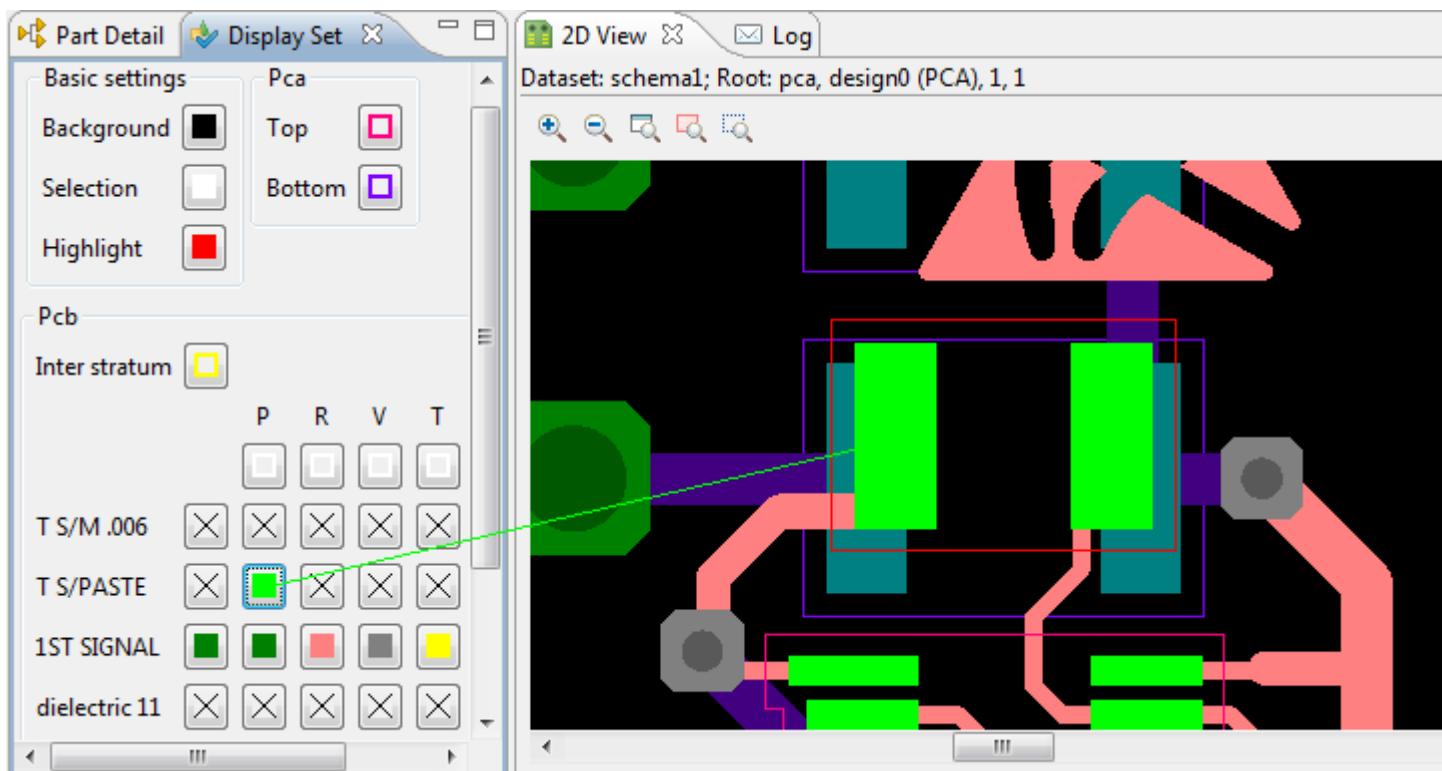

Figure 3. Changed color in Display settings view is applied to component in 2D View
- Changing settings in the **Display settings** view, the **2D View** presents, how changes are applied to the design components (see Figure 3).